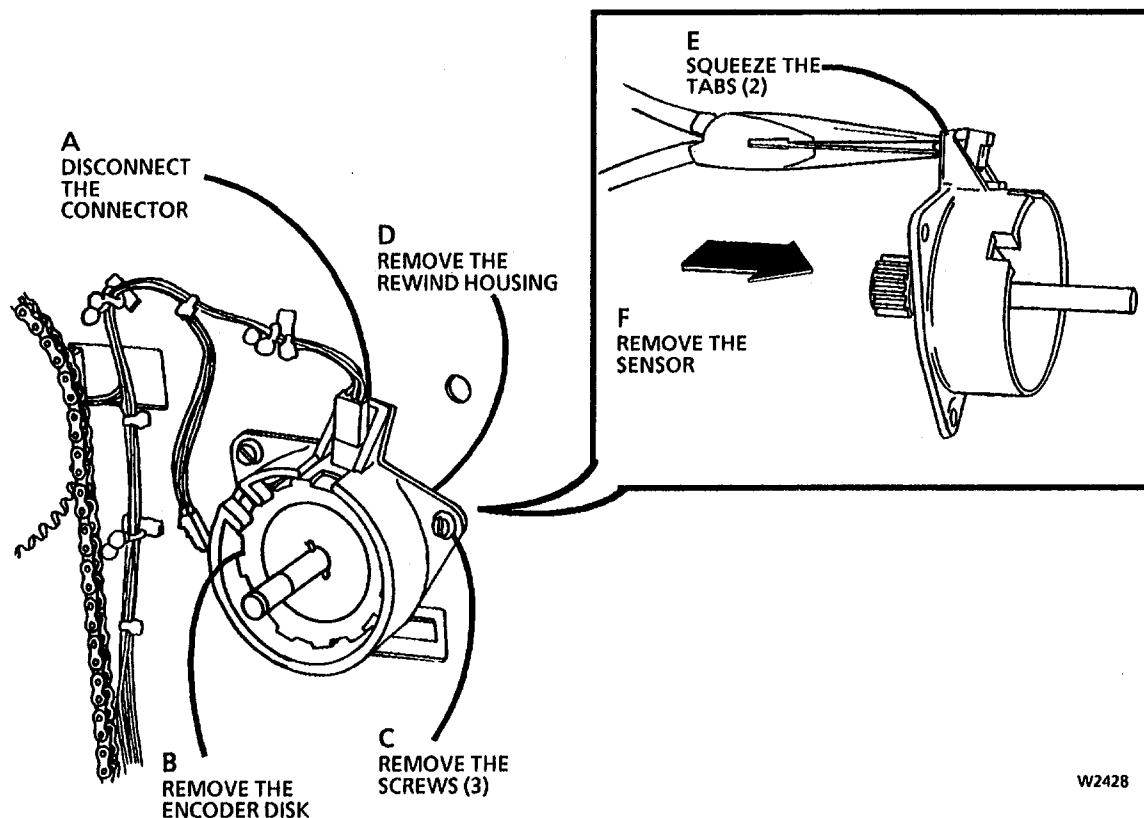

Figure 1. Removing the Encoder Sensor
3. (Figure 1): Remove the Motion Sensor.